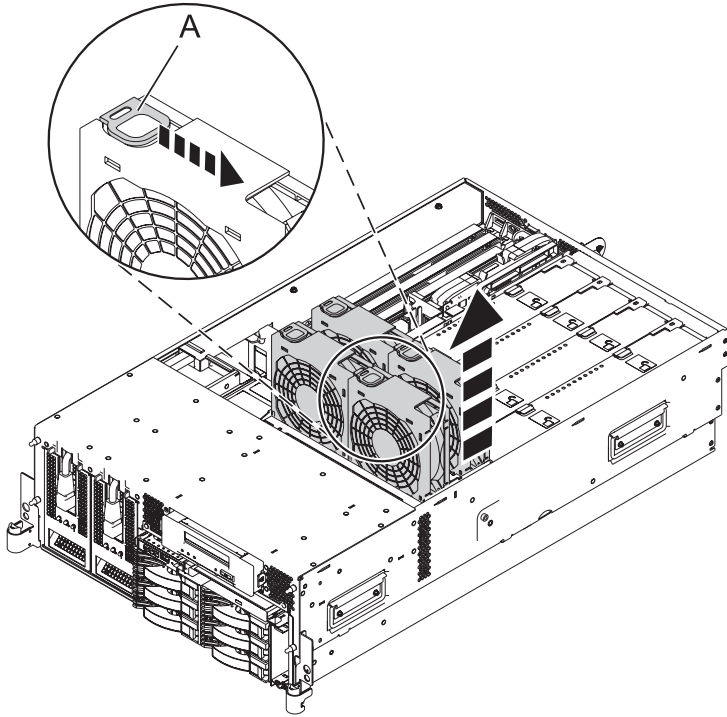

Figure 7. Removing the fan from the 8204-E8A or 9409-M50 fan cage
- 1) To remove the fans, squeeze the tab (A) and lift the fan out of the fan cage as shown in Figure 7 on page 15.